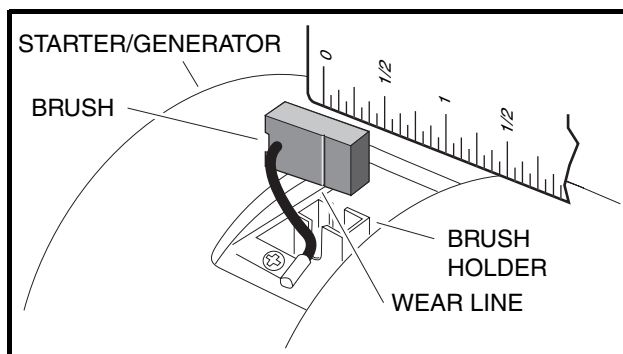

Figure 14-4 Inspect Brushes
- Check the wear line on the side of the brush. If the end of the brush is within 1/16 inch (1.6 mm) of the wear line, replace all four brushes (**Figure 14-4, Page 14-2**).